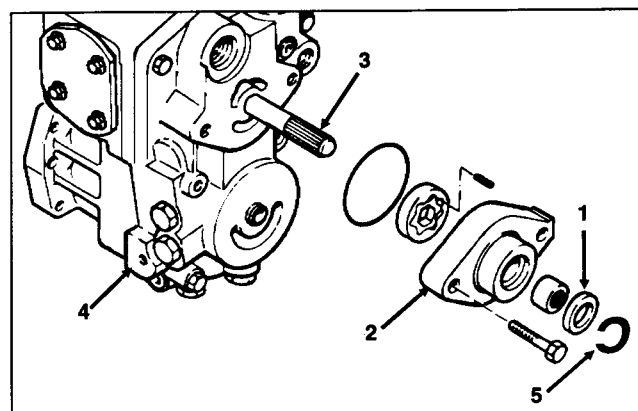

Figure 28
3. Remove retaining ring, then carefully remove seal from bore in charge pump cover (Fig. 28). The face of the seal may be punctured with a sharp instrument (such as a screwdriver) to aid in prying the seal out, or a slide hammer type puller may be used to remove the seal. Be careful to not damage the charge pump cover or shaft. Once removed the seal is not reusable.